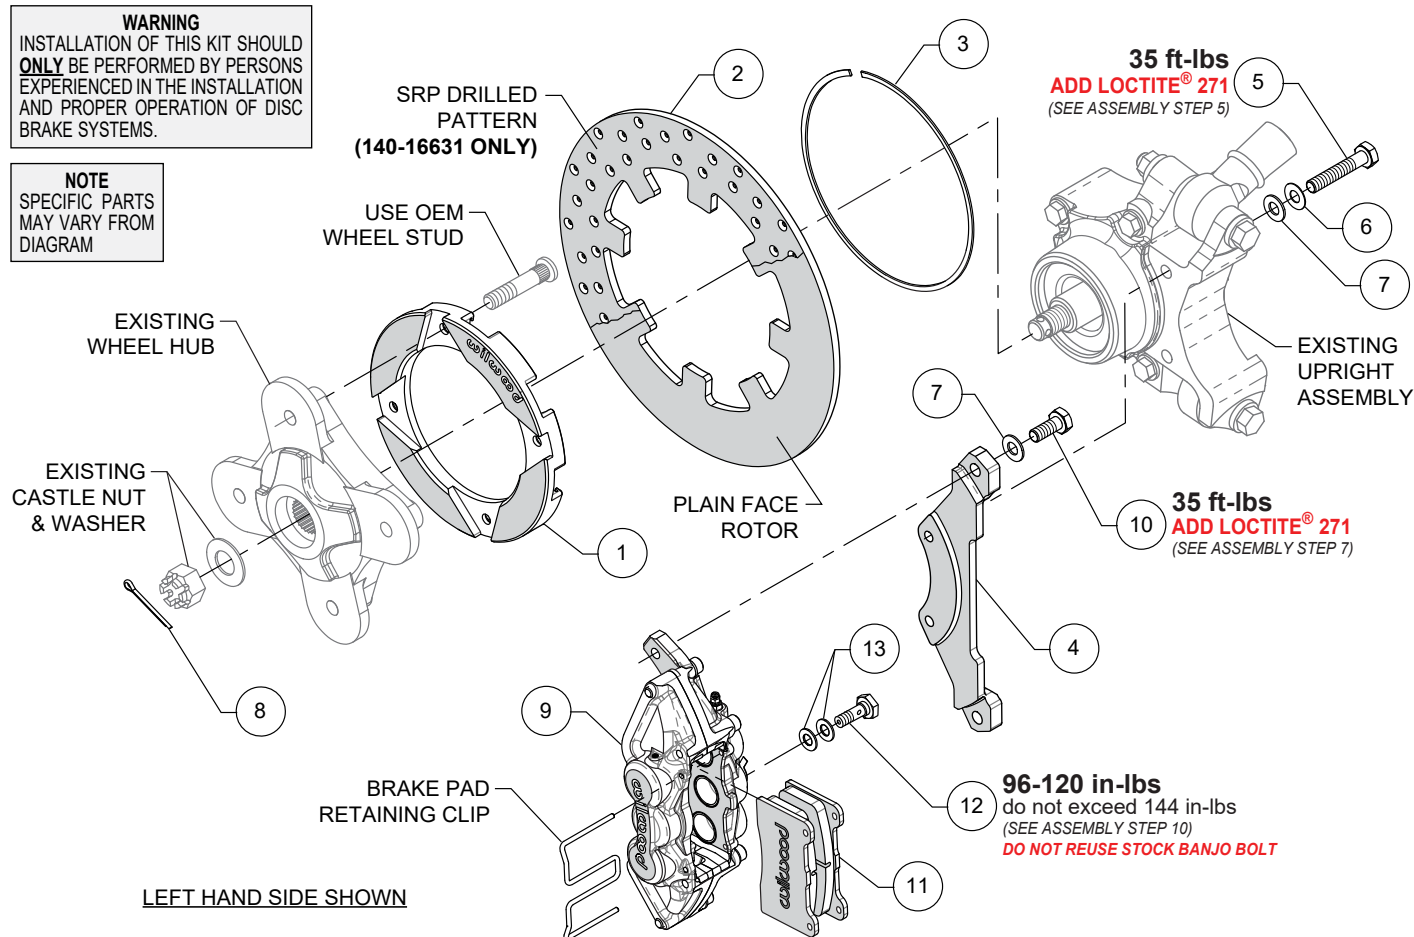

Figure 1. Typical Installation Configuration
NOTE: Numbers in parenthesis refer to the parts list and Figure 1 on the preceding pages.
STEP 2 Place the existing OEM wheel hub face down and position the rotor adapter (1) onto the wheel hub as shown in Photo 1. **NOTE:** The existing wheel hub must be free of dirt and debris or excessive rotor run out may result. Press the OEM wheel studs back in through the rotor adapter and OEM wheel hub.
STEP 3 Position the rotor (2) onto the rotor adapter (1), making sure the rotor lugs fit into the recesses of the rotor adapter, as shown in Photo 2.
STEP 4 Secure rotor to the rotor adapter using the snap ring (3) by simultaneously pushing down on the rotor and installing the ring into the groove in the rotor adapter, as shown in Photos 3 and 4. Carefully inspect snap ring to ensure complete engagement in the groove.
STEP 5 Orient the caliper mounting bracket (4), as shown in Figure 1 and Photo 5. Install using bolts (5), and washers (7). Place one .030" thick shim (6) on each bolt (5) between the bolt head and washer (7), see Figure 1. **NOTE:** Use of shim (6) ensures end of bolt does not contact rotor. Apply red Loctite® 271 to the bolt threads and torque to value shown in Figure 1.
STEP 6 Grease the splines and outer snout of the existing wheel hub with high temperature grease and slide the wheel hub/rotor assembly onto the axle, Photo 6. Attach using the existing OEM washer and castle nut. Tighten to OEM specifications and secure using cotter pin (8), Photo 7.
STEP 7 Secure the caliper (9) to mounting bracket (4) using bolts (10) and washers (7), Photo 8. Apply red Loctite® 271 to the threads, and torque to value shown in Figure 1.
STEP 8 Remove the pad retainer clip from the caliper (9), Figure 1. Insert the brake pads (11) into the caliper with the friction material facing the rotor, as shown in Photo 9. Reinstall the pad retainer clip, Photo 10.
STEP 10 Attach brake line to caliper. Orient OEM brake line as shown in Photo 11 and connect to caliper using banjo bolt (12) and crush washers (13). Do not use lubricant or thread sealant on banjo bolt (12). Torque to minimum value shown in Figure 1. Check for leakage, increasing torque only to stop leakage without exceeding maximum specification. Replace crush washers and banjo bolt whenever reassembly is required. **Ensure hoses are routed to prevent contact with moving suspension, brake or wheel components.**